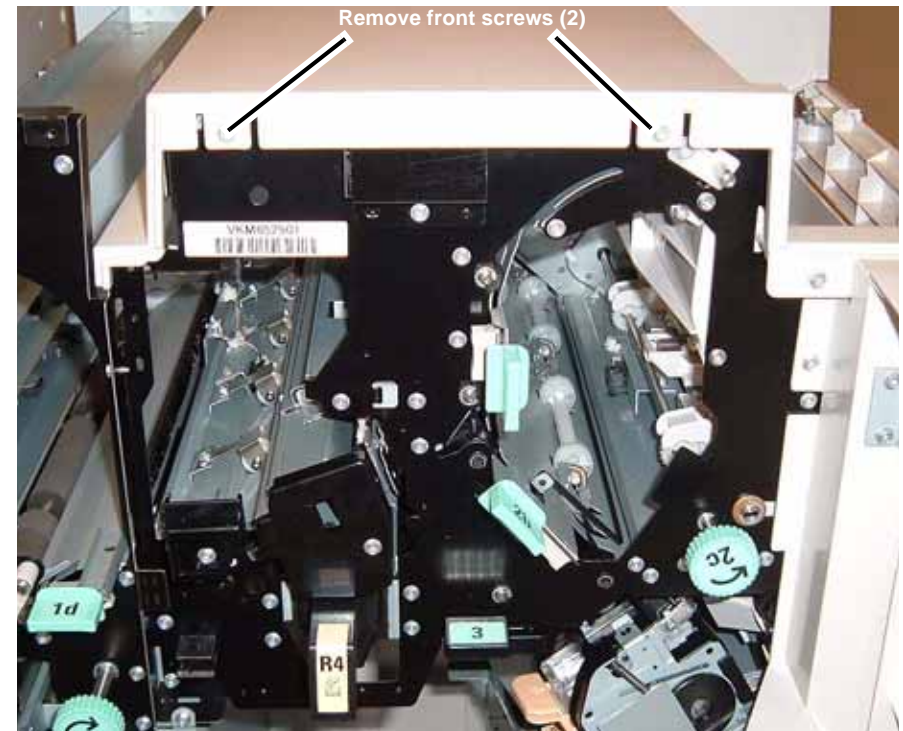

Figure 1 Removing Front screws
6. Remove front screws (Figure 1).